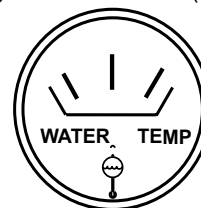

Figure 53. Coolant Temperature Gauge
15. The coolant temperature gauge (Figure 53) will indicate the coolant temperature. Under normal operating conditions the coolant temperature should be between 105 and 215 degrees Fahrenheit (Green Zone).